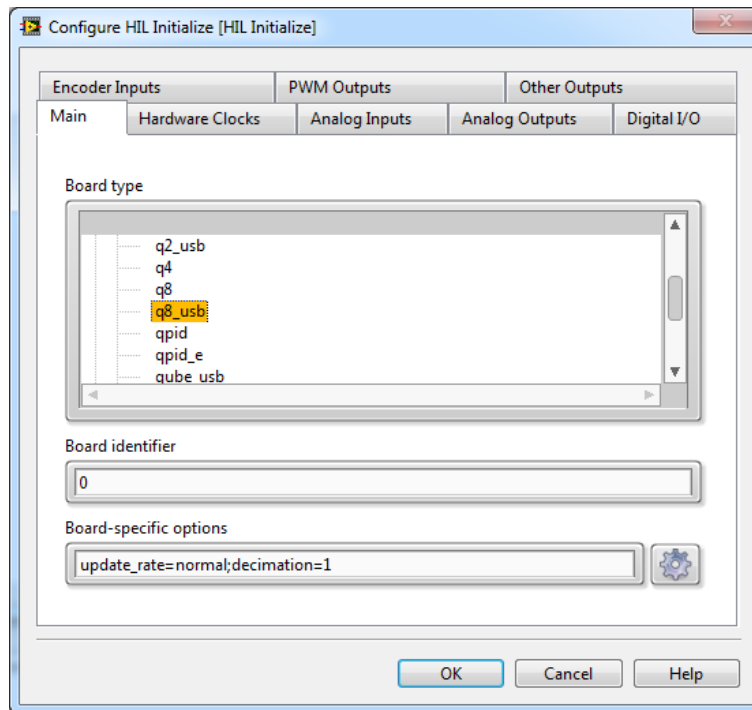

Figure 4.4: Selecting the q8_usb board
- Under the Main tab, select the data acquisition device that is installed on your system in the *Board type* section. For example, in Figure 4.4 the Q8-USB is chosen.